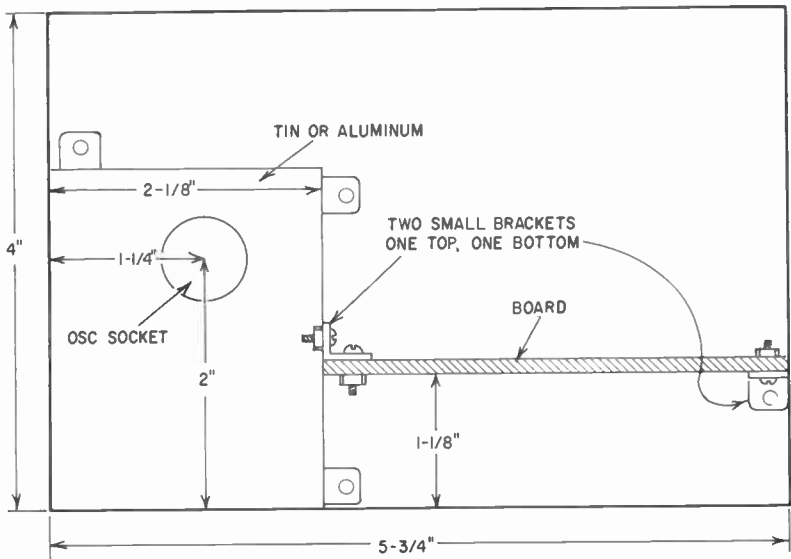

Fig. 703. The plywood board of Fig. 701 is fastened to the metal shield shown in Fig. 702.
5. Mount the plate to the shield. See Fig. 703.